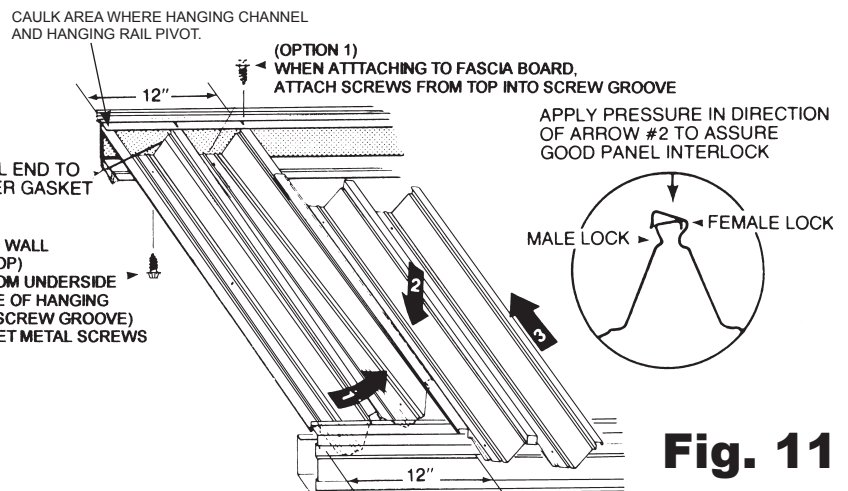

Fig. 11
- F.** Install second panel as shown (**Fig. 11**) following the directions of the arrows in numerical order.
- H.** See (**Fig. 11**) and fasten first panel (**Part 9**) at hanging channel (**Part 1**) with # 10 x 3/8" sheet metal screws (**Part 16**). Fasten first panel at front fascia thru prepunched holes into front fascia. (**Fig. 9**).
- I.** Install third panel (**Part 9**) in same manner as second panel (**Part 9**). Fasten second panel (**Part 9**) in same manner as first panel. Caulk panel ends to foam rubber gasket. (**Fig. 11**).